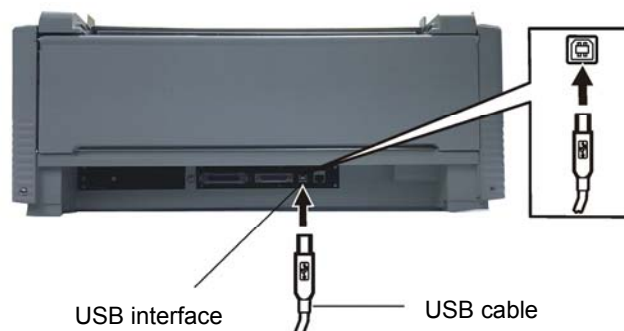

Figure 2-11 Connect to the USB interface
2. Plug the USB cable B end (square shape) into the printer's USB interface. (As Figure 2-11 shown)